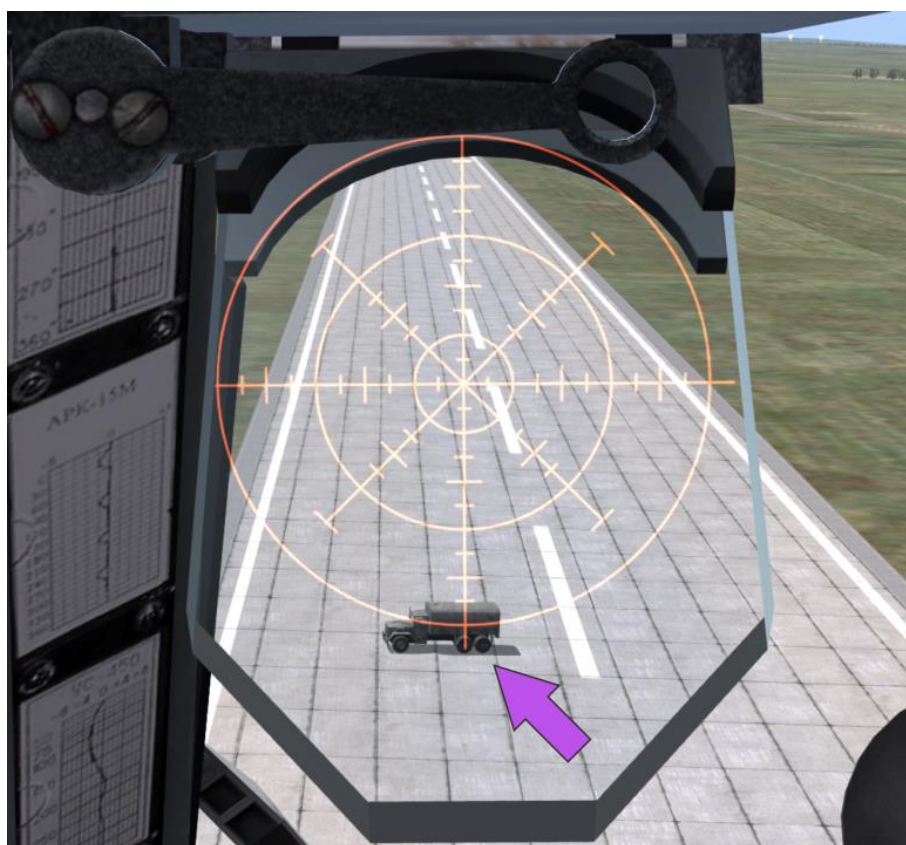

Fig. 12.4. Bomb release point in calm weather or only head/tailwind; altitude 50 m
- d) In a head or tailwind condition (as well as no wind), bombs are released when the target passes through the bottom of the outside ring of the reticle (Fig. 12.4);